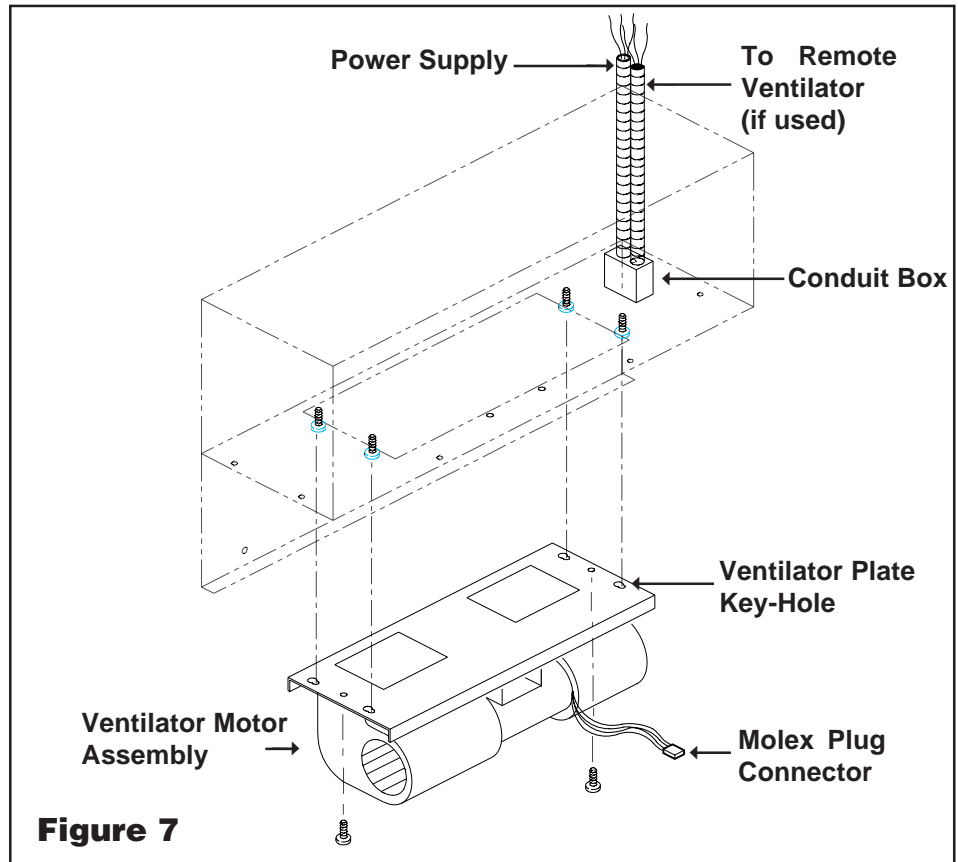

Figure 7
1. Run four (4) #10 x 1" screws (provided) halfway through the rough-in plate into the framing, as shown in Figure 7.
2. Install the ventilator assembly by aligning the four screws on the rough-in plate with the keyholes on the ventilator plate and, at the same time, push the assembly toward the wall. **Make sure all four (4) screws are engaged securely in small end of the keyhole.**